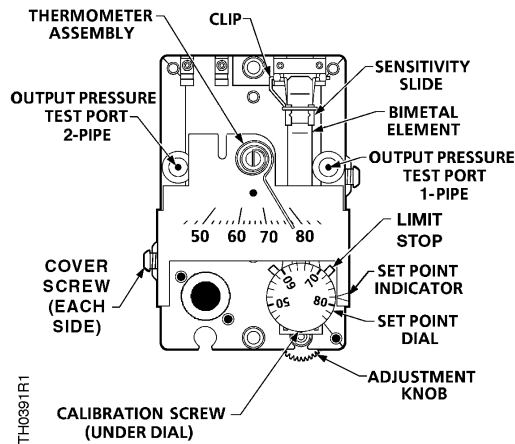

Figure 15. TH-192 S Thermostat Details.
3. Place a screwdriver in the center of the thermometer assembly (see Figure 15). Carefully rotate the thermometer assembly until the pointer tip indicates the correct room temperature.
The factory thermostat sensitivity setting is approximately 2.5 psi/°F (31 kPa/°C). To change the sensitivity, use a flat-blade screwdriver to carefully move the sensitivity slide (see Figure 15) to the desired position as follows:
2. Use a needle nose pliers to pull the limit stop tab (see Figure 15).
The output pressure test port (see Figure 15) is accessible without removing the thermostat cover through the eighth opening:
4. Moisten the needle and insert the test gauge and needle adapter in the output pressure test port (see Figure 15). Read the control pressure.
Use the Dual Scale Pressure Gauge and Pressure Tap Needle (assembled) to measure the control pressure at the output test port (see Figure 15). The output pressure test port is accessible without removing the thermostat cover through the eighth opening from the top as follows: